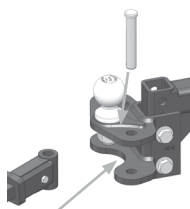

Figure 30
3. Lock the coupler and insert the safety pin into the coupler latch. (Figure 30)
4. Insert the spring arms into the hitch head and ensure that the retaining pin is secure. (Figure 30)